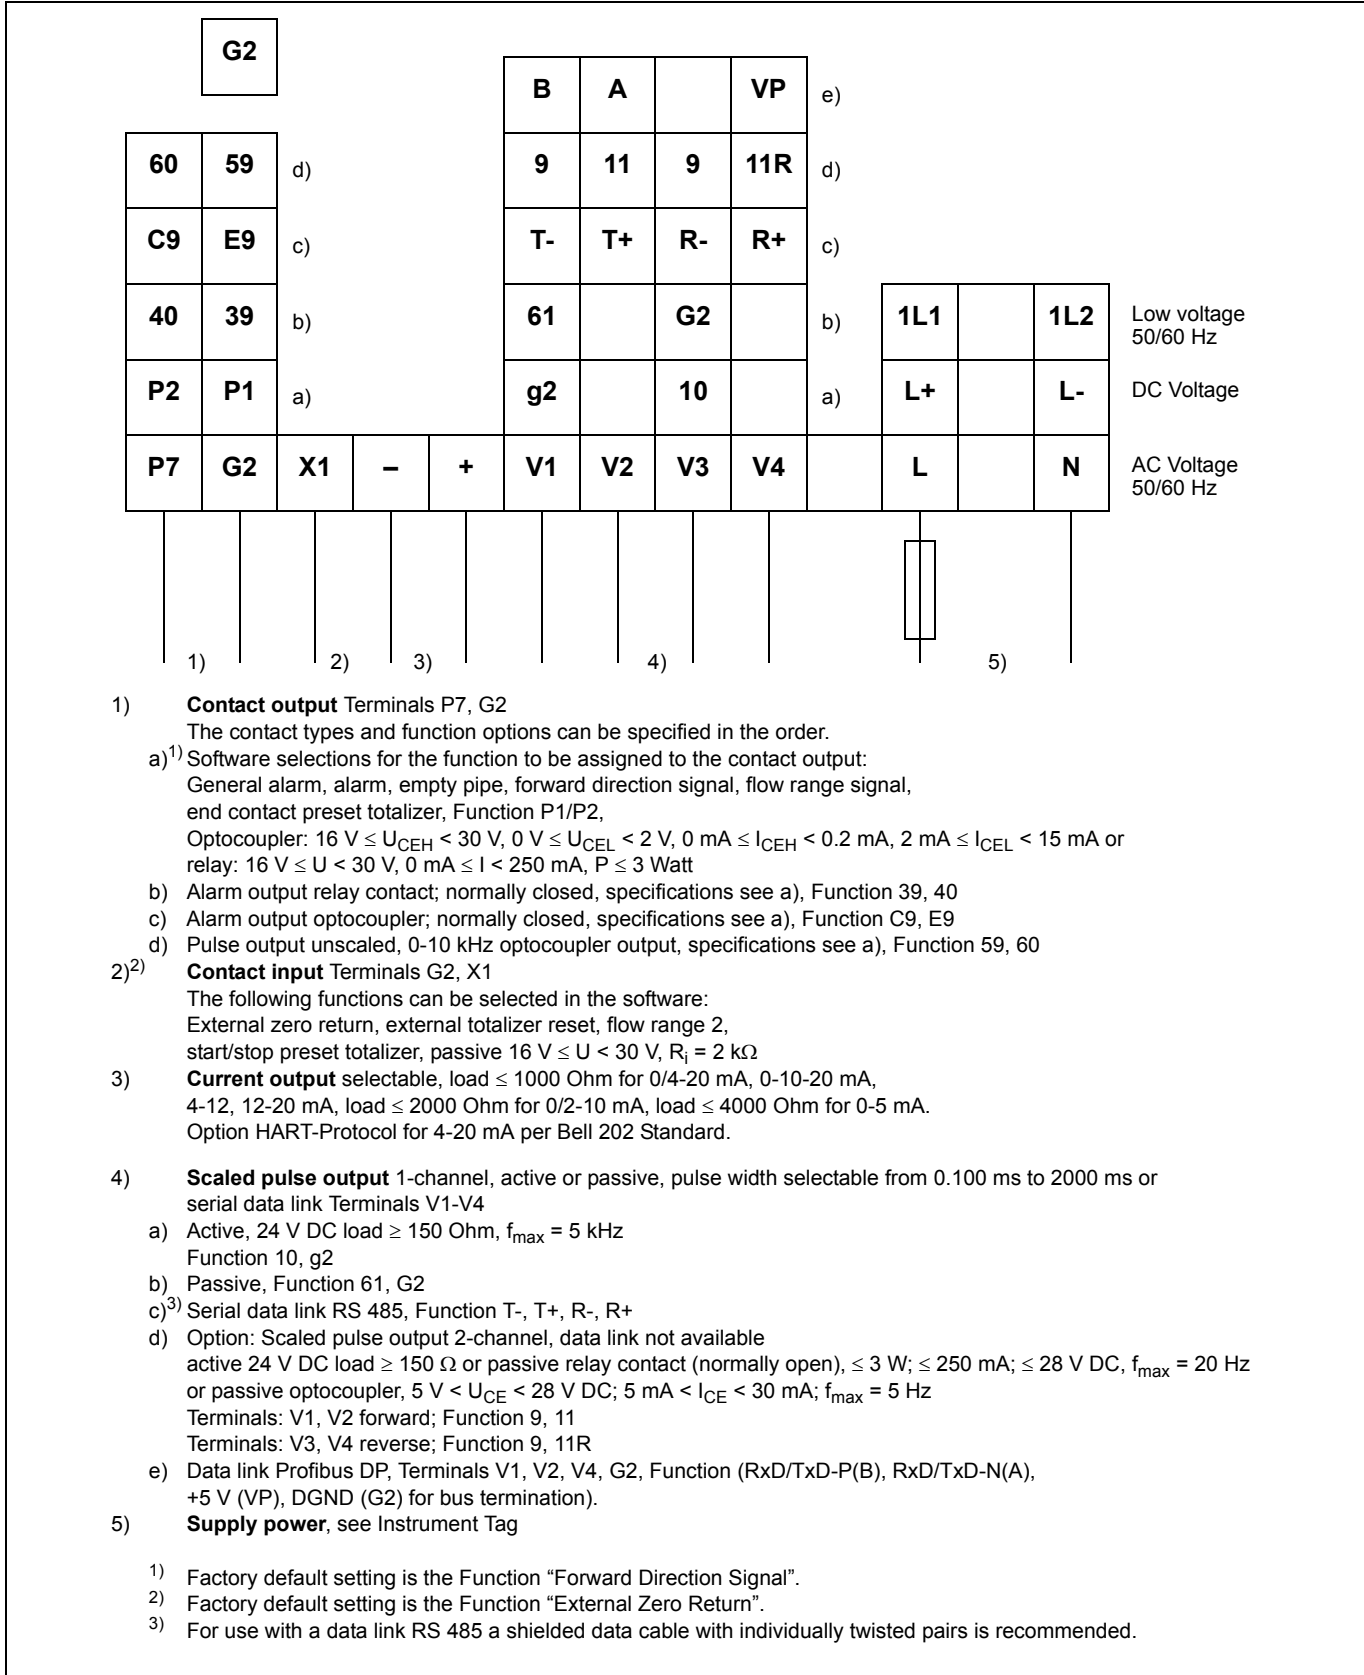

Fig. 38 Interconnection Diagram COPA-XM and COPA-XM Volume Flow Integrator
- Check the interconnections per the Interconnection Diagram Fig. 38 on Page 54 .